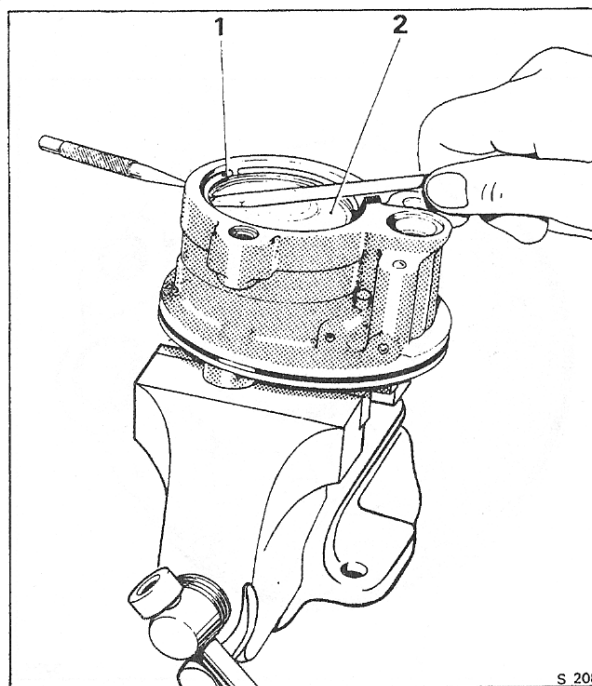

Fig. N17 End plate removal
10. Using a screwdriver, lever out the retaining ring (see Fig. N17). Withdraw the centre punch.